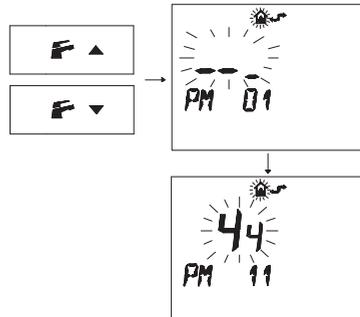

Fig. 7.30
- Press buttons  or  to display the "PM11" program of the pump post-circulation (Fig. 7.30).